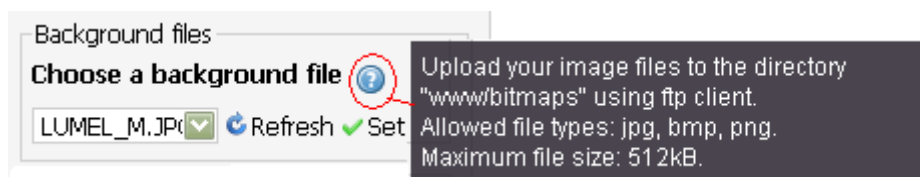

Fig. 49. Selection of files background
- a) Background files - the element presented on the fig. 49 allows for setting a background file of a map.
Positioning the mouse cursor on a question mark displays information on how to load your own background files (fig. 49). In order to load your own background file, send your image files using FTP client to “WWW/bitmaps” catalog. Servicing FTP client is presented in point 7. FTP Client.